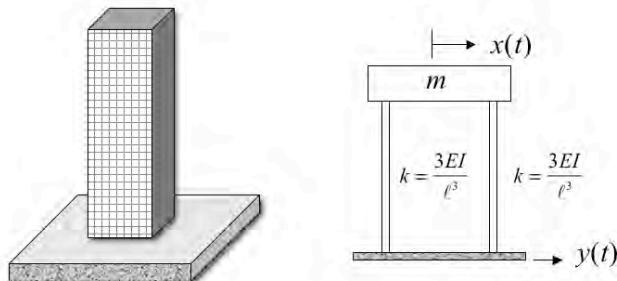

Figure P2.50 A simple model of a building subject to ground motion, such as an earthquake.
- 2.50** Consider the simple model of a building subject to ground motion suggested in Figure P2.50. The building is modeled as a single degree of freedom spring-mass system where the building mass is lumped atop of two beams used to model the walls of the building in bending. Assume the ground motion is modeled as having amplitude of 0.1 m at a frequency of 7.5 rad/s. Approximate the building mass by 10⁵ kg and the stiffness of each wall by 3.519 x 10⁶ N/m. Compute the magnitude of the deflection of the top of the building.